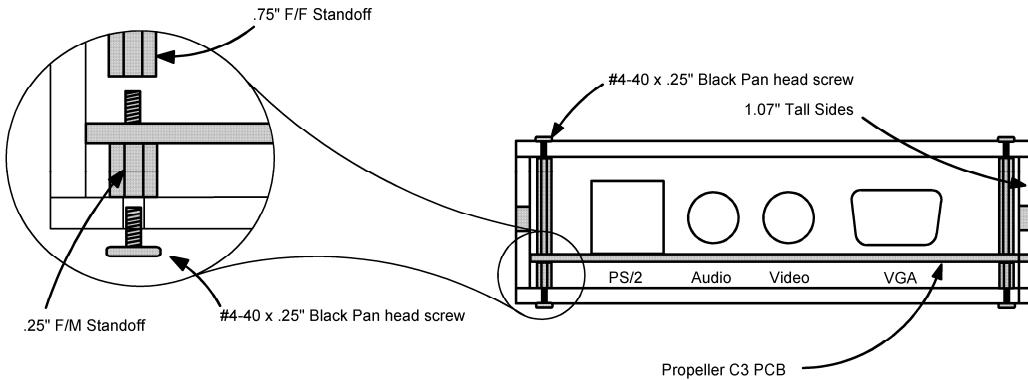
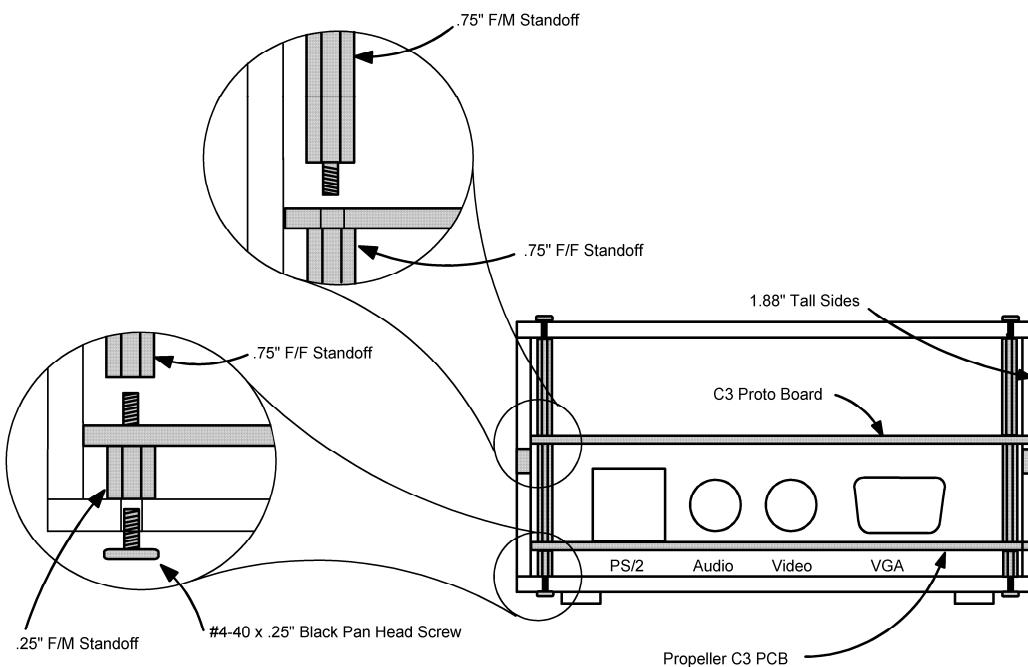

Figure 1:
Figure 2:
Step 1: Determine whether you're going to assemble a single-height case for the Propeller C3 alone, or a double-height case for the Propeller C3 with the optional C3 Prototype Board. Refer to either Figure 1 or Figure 2 for proper hardware assembly during the next steps.